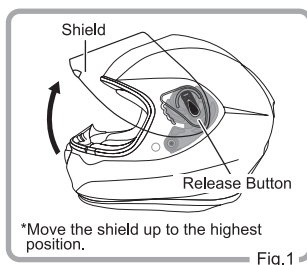

Fig.1
1. Move the shield up (Fig.1). (Move it up as far as it goes.)